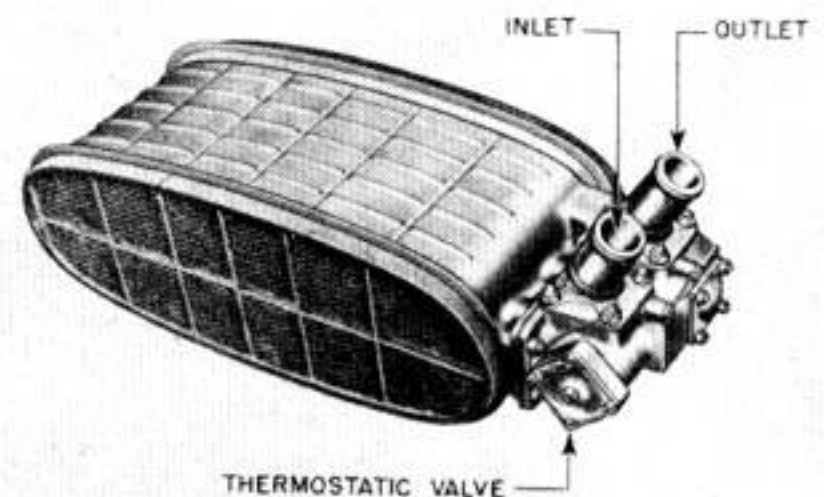
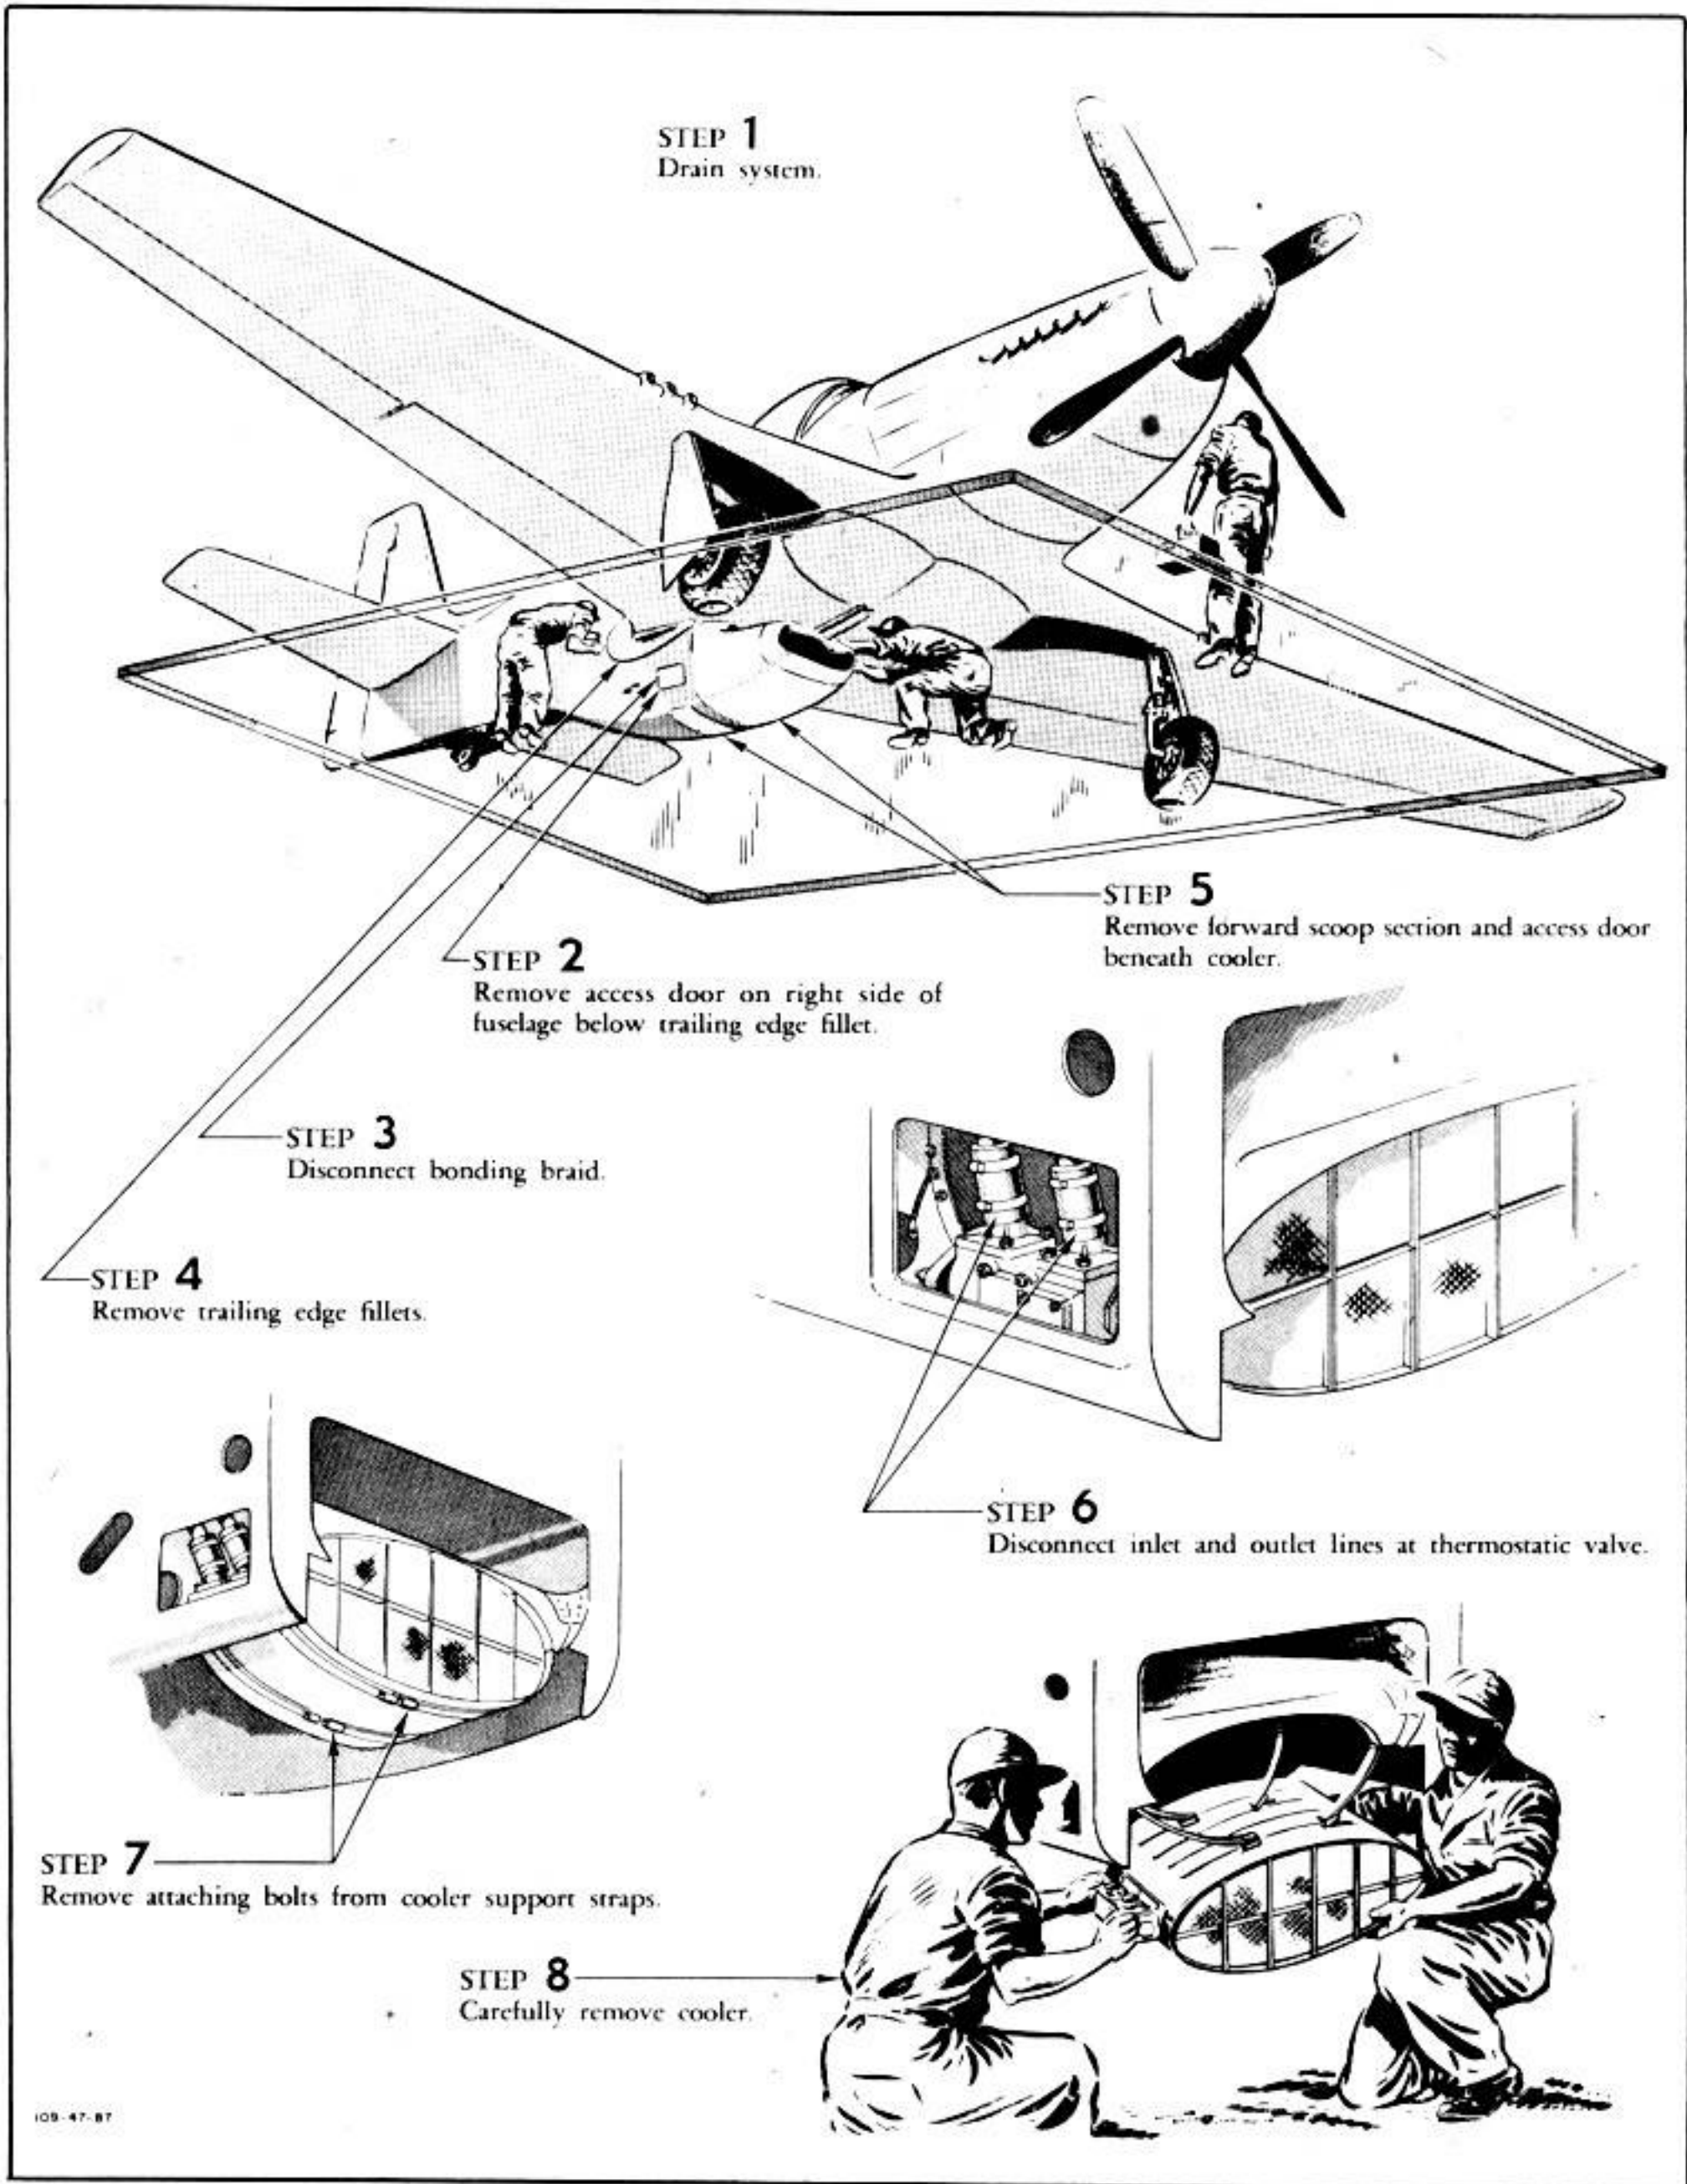

Figure 265—Oil Cooler
Figure 268—Removing Oil Cooler
c. OIL COOLER. (See figure 265.)
(1) DESCRIPTION.—The oil cooler, Type U.A.P. 8000 Series, is a honeycomb type, and, when in operation, allows the oil to flow between the round portion of the copper cooling tubes. A combination by-pass and surge valve, mounted on one end of the cooler, by-passes oil directly to the cooler outlet if the temperature of the oil at the inlet is below 37.8°C (100°F). As the temperature of the oil at the inlet increases, the thermostatic surge element closes the by-pass and opens the core inlet. In this position, the by-pass valve acts as a 75-pound, spring-loaded relief valve which protects the oil cooler core from excessive pressures. After the oil leaves the valve and enters the top section of the cooler, it will by-pass the core tubes and relieve through a 40-pound, spring-loaded relief, in the valve body, if the resistance in the core section, due to cold oil, is in excess of 40 pounds. As this resistance decreases with a rise in the temperature of the oil, the oil passes through the core section to the outlet port of the valve. A check valve at the outlet port protects the core against high surge pressures encountered when the oil is by-passed during cold starting.
(2) REMOVING OIL COOLER. (See figure 268.)
(3) TESTING OIL COOLER.